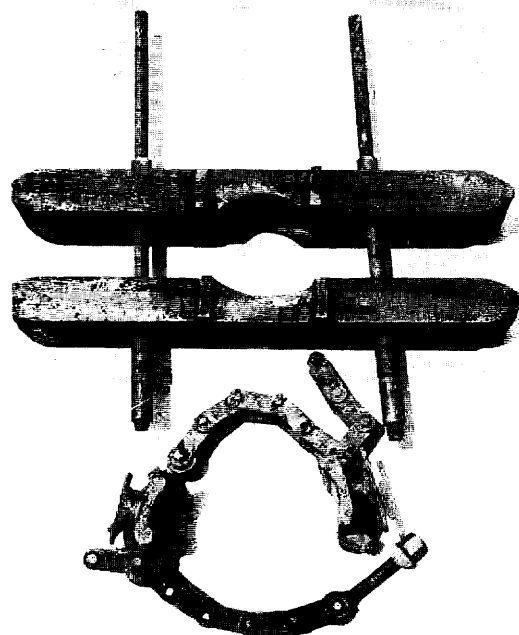

Fig. 6
- Wooden friction blocks or steel clamps (Fig. 6)
- Steel column lifting elevators of approved type and of proper size for the pump column (Fig. 6)